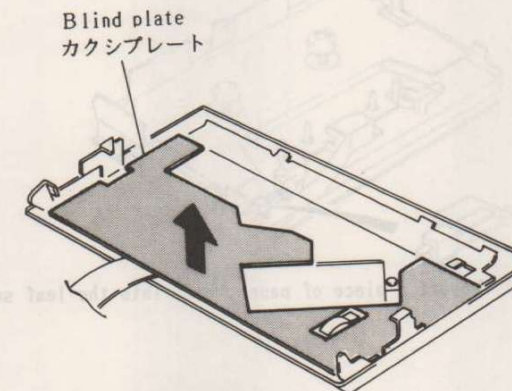

Fig. 11
2) Remove the mask plate at the back of the cassette lid. (See Figure 11)